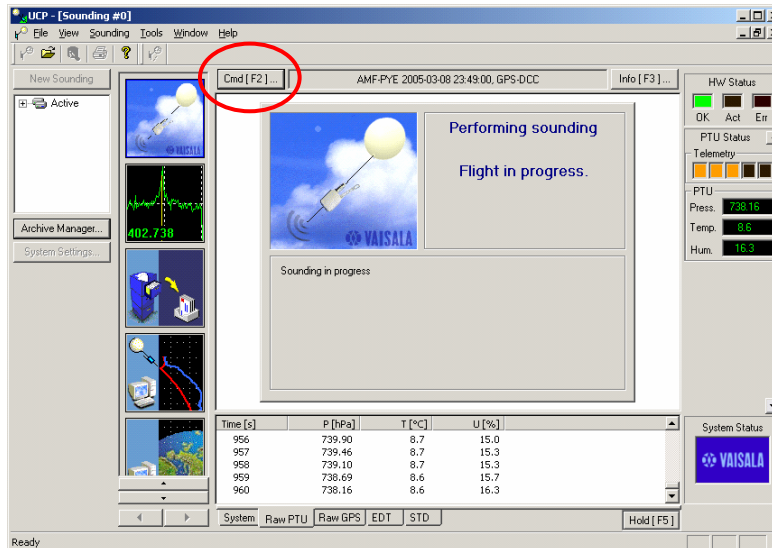

Figure 1
1. Click on the "Cmd[F2]" button as shown below (Figure 1).